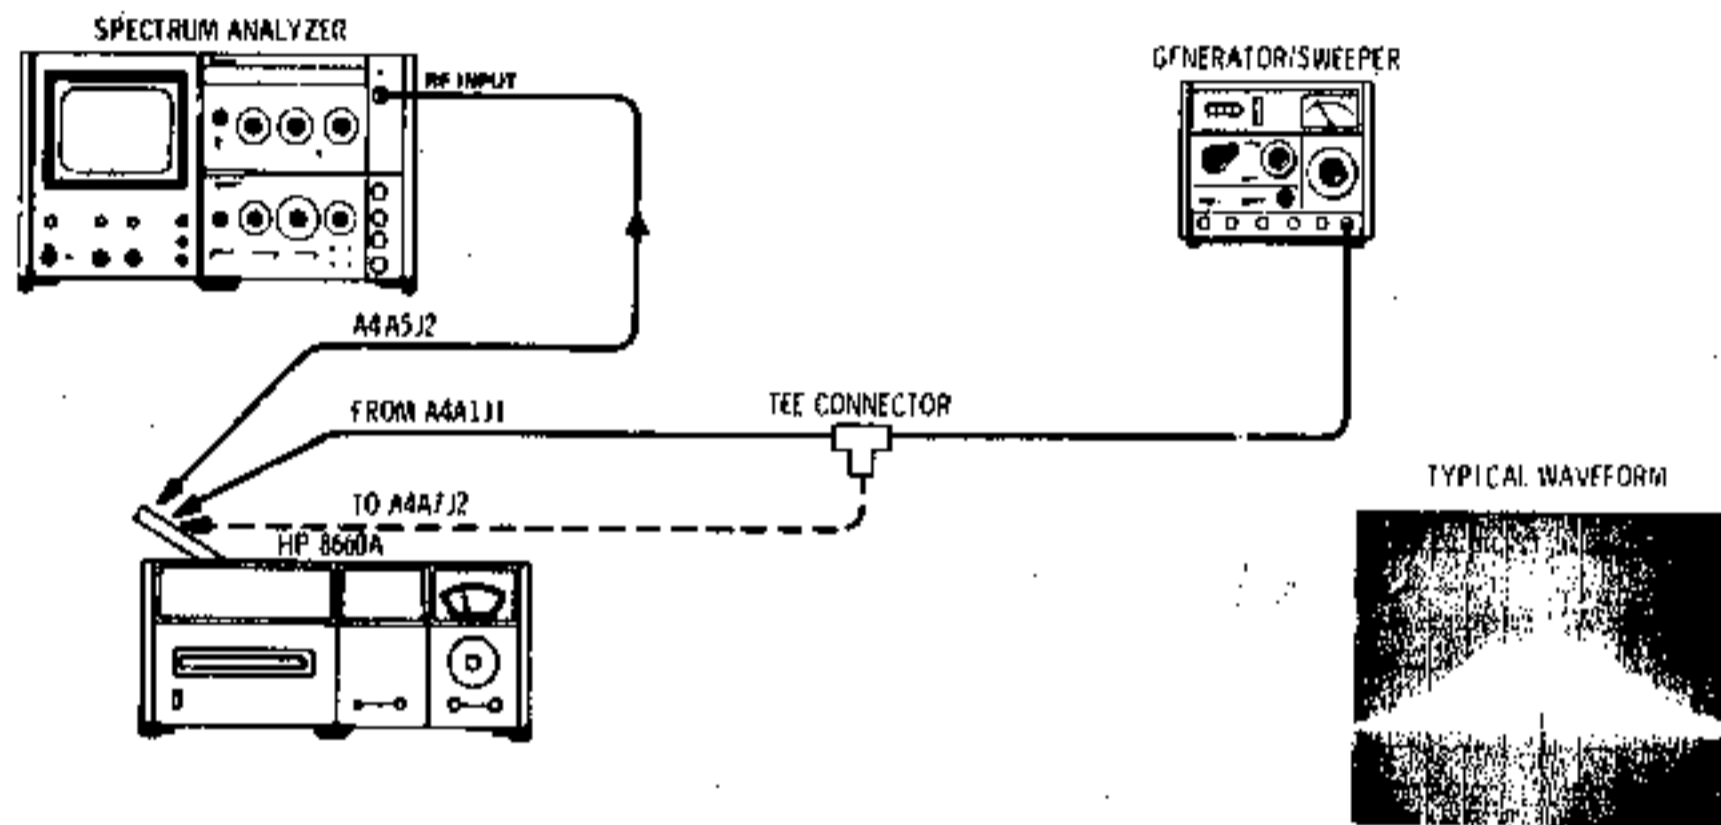

Figure 7-22. Loop Gain Adjustment Test Setup
4. Loop Gain Adjustment. (See Figure 7-22.)